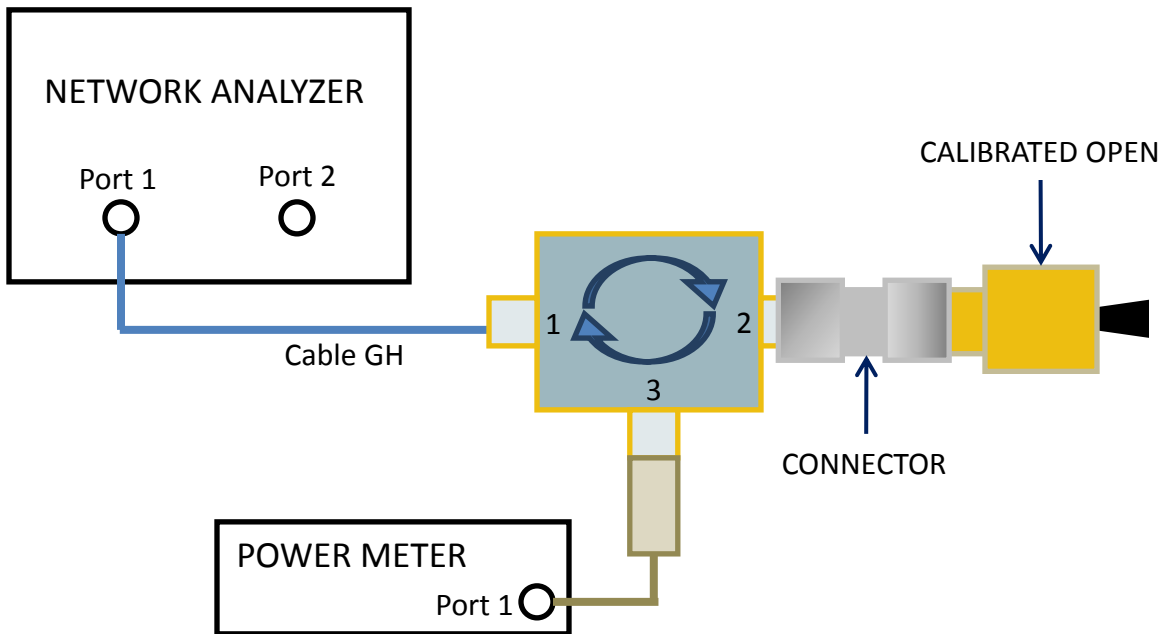

Figure C1. Circulator connected to Network Analyzer, Calibrated Open, and Power Meter
- Connect circulator ports 1, 2, and 3 as shown in Figure C1: